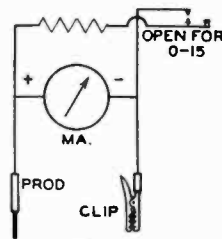

Figure 1.
An 0-15 milliammeter of 295 ohms resistance can be purchased for about 60 cents and one with zero adjustment for about \$1.00. A meter of this type will take care of all current measuring requirements with sufficient accuracy. A shunt equal to one-ninth of the meter resistance will increase the range ten times, measuring current up to 150 mas. Connected as in Figure 1, the meter is always prepared for the highest reading and is a safeguard against burn-out. To read 0-15 ma. press down the key, this will momentarily disconnect the shunt.
current range will be 0 to 10 ma., etc. Instead of short-circuiting the resistor, you can bring out a lead from between one side of the mechanism and the resistor and mount another binding post on the meter case to which to connect this third lead. Then you can use the instrument either as a current meter or a voltmeter, depending on which of its terminals you employ. All of this is illustrated in Figure 1. (A) and (B) are the original voltmeter terminals while (C) is the added one. Terminals (A) and (B) are used for voltage measurements; terminals (A) and (C) for current. The range of either meter may be increased in the usual manner. Shunting suitable resistors across (A)-(C) will increase the current range. Inserting suitable resistors between (B) and the voltage to be measured will increase the voltage range.